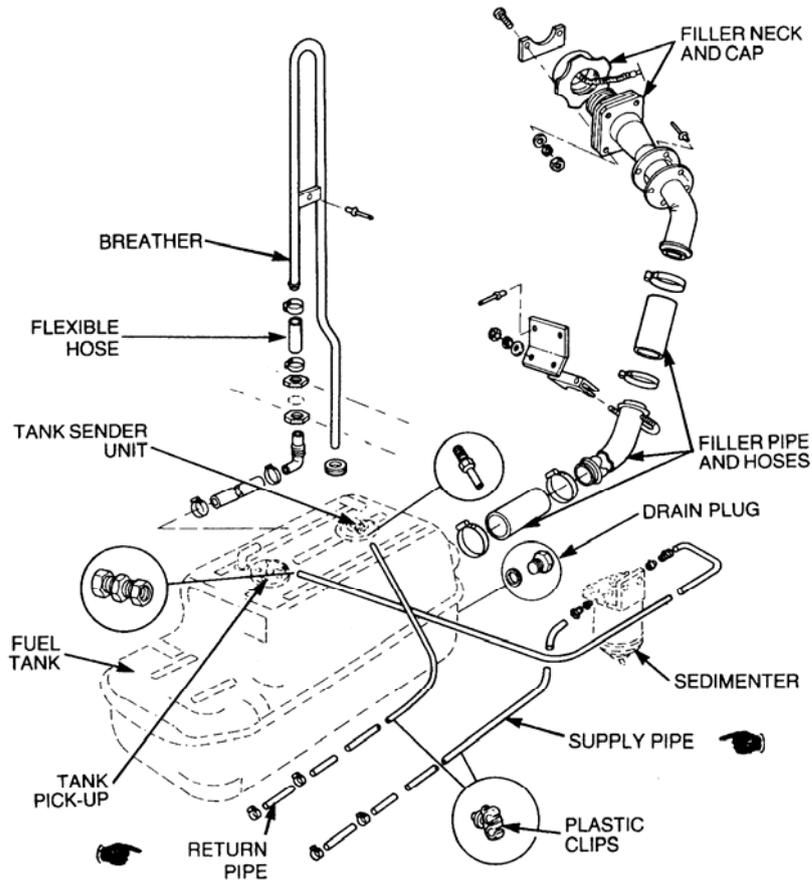

Figure 4 Fuel Tank Exploded View
- Remove the hexagonal head drain plug from the fuel tank (refer Figure 4).